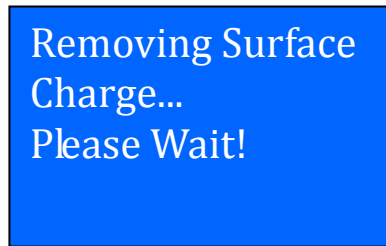

Figure 15
6. Press  key will proceed to do the battery testing and if it has detected any surface charge on the battery, it will start to remove and a message is shown (Fig. 15) below.